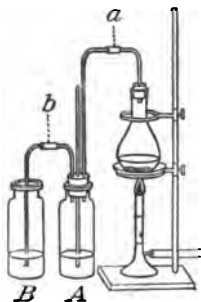

Fig. 36.
1. (Rule 14). Connect a flask with Wolff bottles, as in Fig. 36, the same as for making  $\text{HCl}$ . In the first bottle, *A*, only the safety tube should dip into the water. The bottle *B* should be left open. Have an upper ring, to hold the flask in place, and a lower one on which is placed a tin plate, asbestos, and the flask. This ring should be 5 or 10cm above the top of a Bunsen burner. Have rubber connectors at *a* and *b*.